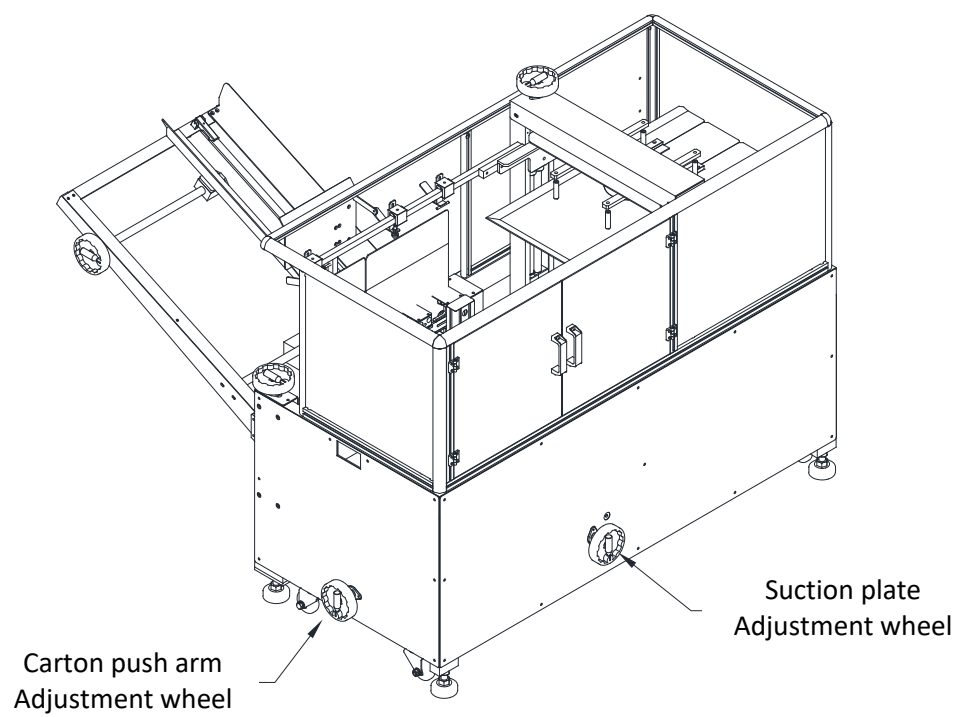
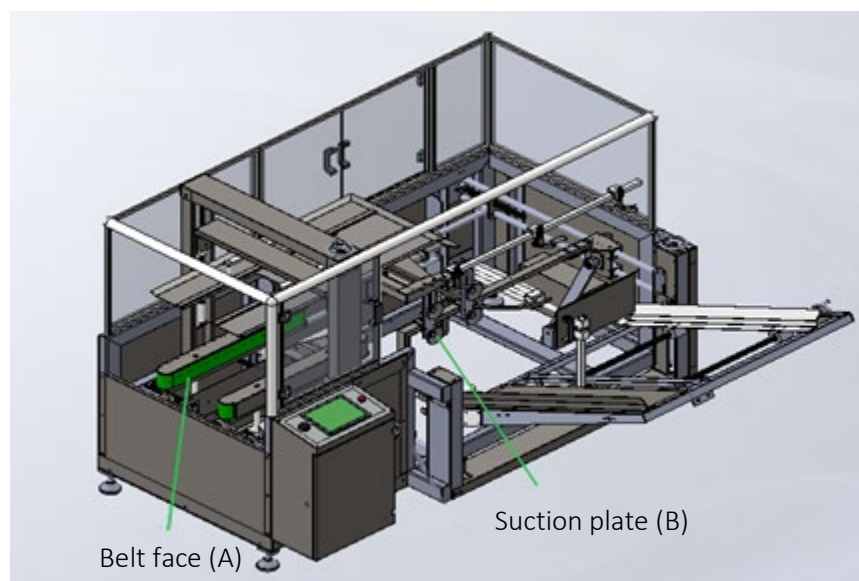

Fig. 2
Figure 3.
- 1) Fold a carton to size leaving the flaps on one end open (see fig.2)
- 4) Next, use the hand wheel in figure 2 to adjust the suction cup plate, lining it up with the belt face as seen in Figure 3.